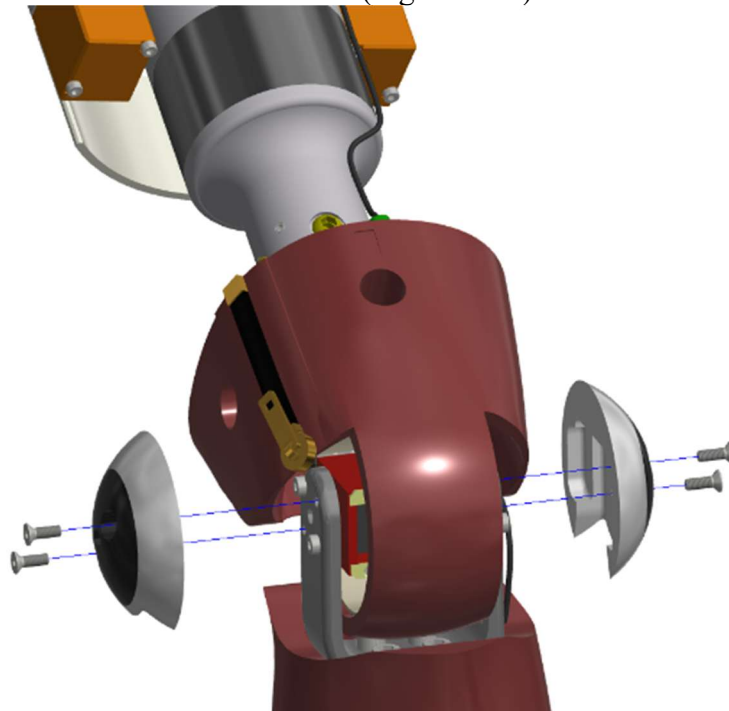

Figure 9-11. Remove the Left and Right Knee Covers (474-5301-1,2-A) by removing the two M4 X 0.7 X 12 LG. FHCS
9.2.4 Remove the Left and Right Knee Covers (474-5301-1,2-A) by removing the two M4 X 0.7 X 12 LG. FHCS (Figure 9-11) on each side.